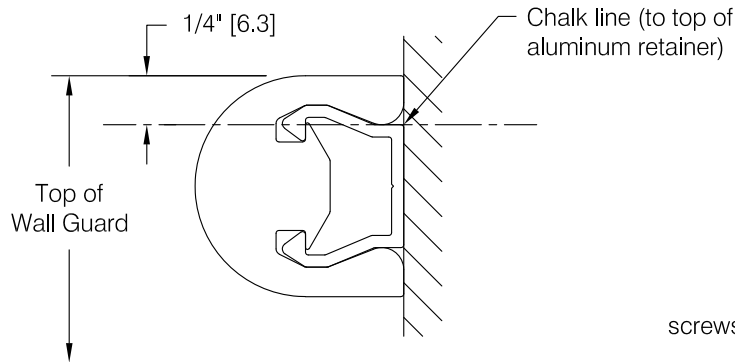

fig 1
Step 1: Determine top of bumper guard and snap a chalk line 1/4" below to locate top of aluminum retainer, see **fig 1**.